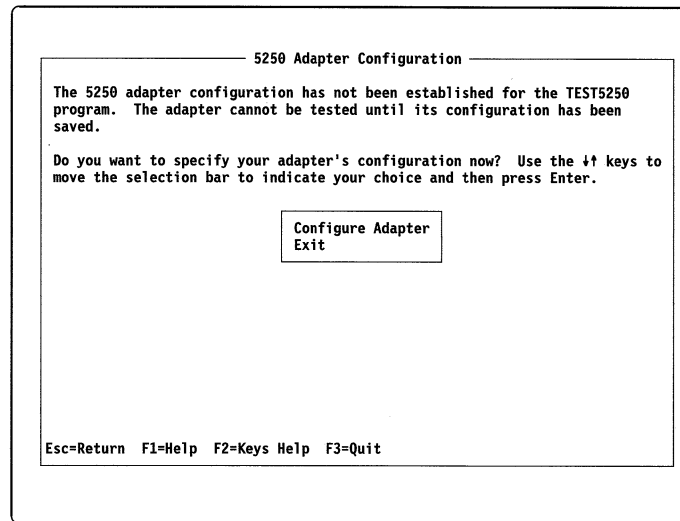

Figure 3. 5250 Adapter Configuration Menu
- If your Adapter Support Diskette has never been configured, the 5250 Adapter Configuration Menu (similar to the one shown in Figure 3) appears. Continue with step 3 on page 11.